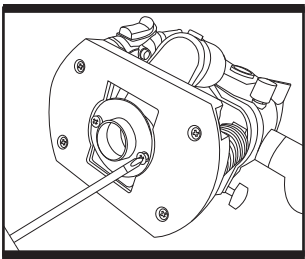

Fig. 11
8. USING THE GUIDE BUSH (See Fig. 11)